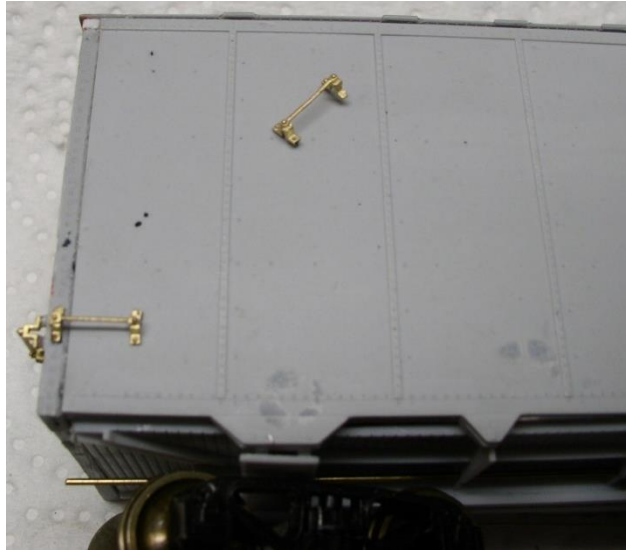

Figure BD8
8. You may need to straighten the brass grab irons after you cut them CAREFULLY from the sprue using a cut off wheel. DO NOT try to clip them off using rail nippers or side cutters. Use a fine pair of pliers to hold the end that you have to clean up. The grab irons on the left ends of the car should be centred as follows. Lower one should be  $21 \frac{3}{8}$ " from bottom and the upper should be  $2' \frac{7}{16}$ " inches from the lower one. To do this you may have to approximate but we use the following. Make marks 19" and 44" above the bottom of the edge left side of the end. Drill 0.020" holes at those marks. Position the grab irons in the holes and mark where the other holes must be. Drill 0.020" holes in those marks. If all fits well, glue the grab irons in place. See Figure BD8.